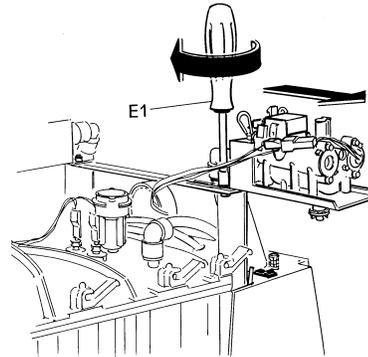

FIGURE 7
3. Rotate the valve assembly 90 degrees and slide to the outside of the unit. Tighten the 1/8 inch (8mm) nut using a socket wrench (E1), see FIGURE 7.